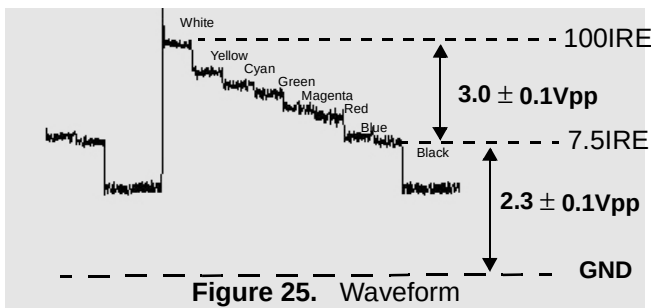

Figure 25. Waveform
1. In the service mode, select DAC "BRIGH" for sub-brightness to obtain $2.3 \pm 0.1V$ between 7.5IRE and GND level at TP47G (see Fig. 25)